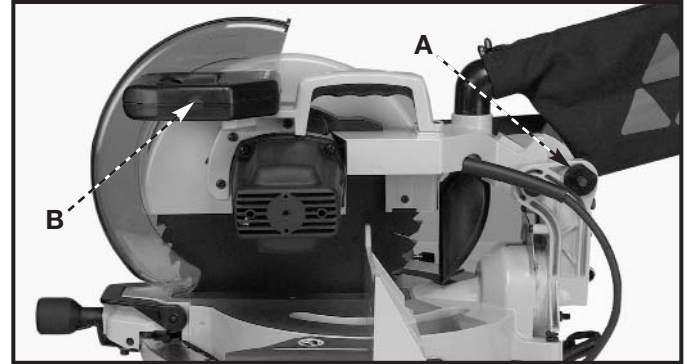
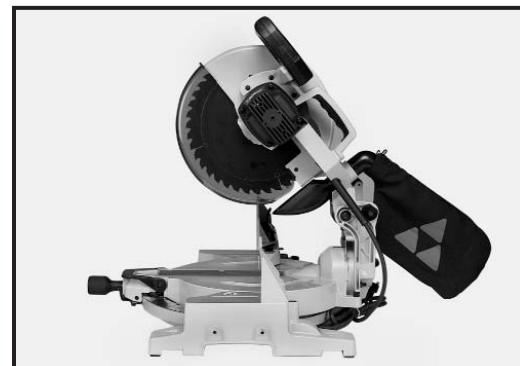

Fig. 3A
Fig. 4
Push down on the handle (B) Fig. 3A, pull out cutting-head lockpin and move the cuttinghead (B) to the up position (Fig. 4).